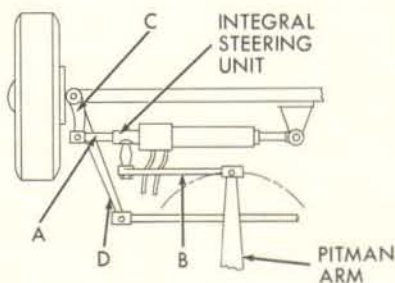

Figure 178
The hydraulic boost may be applied to the steering linkage (Figure 178) or within the steering gear itself. It is basically a mechanically-operated hydraulic servo. Movement of the steering wheel actuates the steering valve, which directs fluid under pressure to actuate a piston. The piston is mechanically connected to the steering linkage and provides the power boost. Movement of the linkage is transmitted to the steering valve body, which "follows" the valve spool. Hydraulic boost is applied then only when the steering wheel is being moved.
The integral linkage power steering system (Figure 178) has both the valve and the power cylinder built into an integral power steering unit (or booster) mounted between the linkage and the frame. In this design, the steering valve is actuated through a drag link (B) by the steering gear Pitman arm. The Pitman arm, of course, responds to steering wheel movement. Power cylinder thrust is applied to the linkage at the steering arm (C).
The Ackerman linkage is shown in Figure 178. The booster actuates the steering arm (C) of the left wheel, and the right wheel is steered through a cross steering arm (D) and a tie rod. The booster is anchored at the cylinder rod end, so that the complete assembly moves with the steering linkage. The valve thus is centered as the linkage catches up with Pitman arm movement.